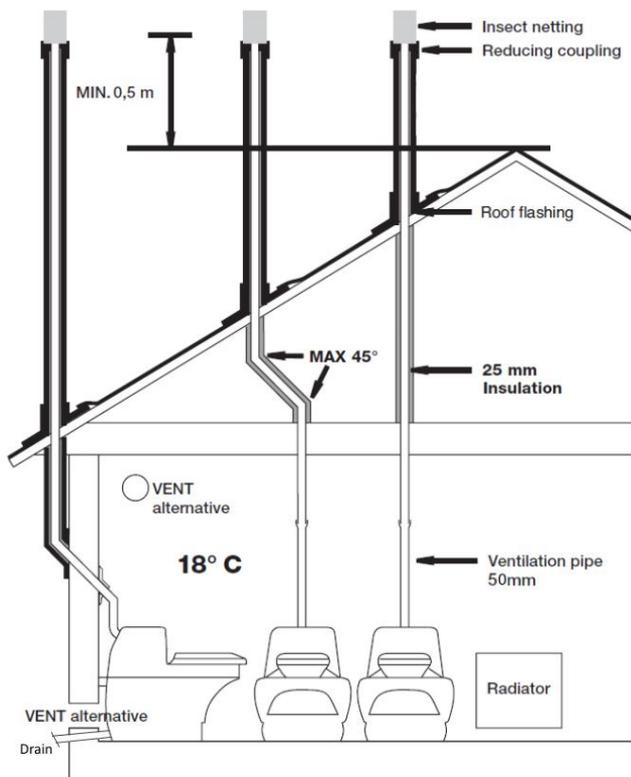
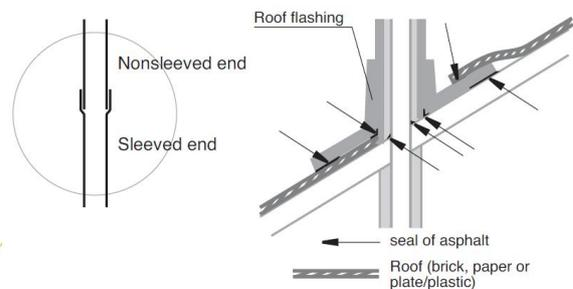

Figure 2: Ventilation pipe installed Outside.
Figure 3: Roof flashing installation.
The EcoLet can be installed close to a wall with the vent pipe exiting directly through the rear wall or alternatively the vent pipe can be installed on the inside exiting up through the ceiling (Figure 2).
The following instructions relate to Figure 2 and Figure 3. These are recommended installation procedures but may vary depending on the location.
12. Adjust flashing and use roof sealant (silicone) to seal roof and flashing as shown in Figure 3.